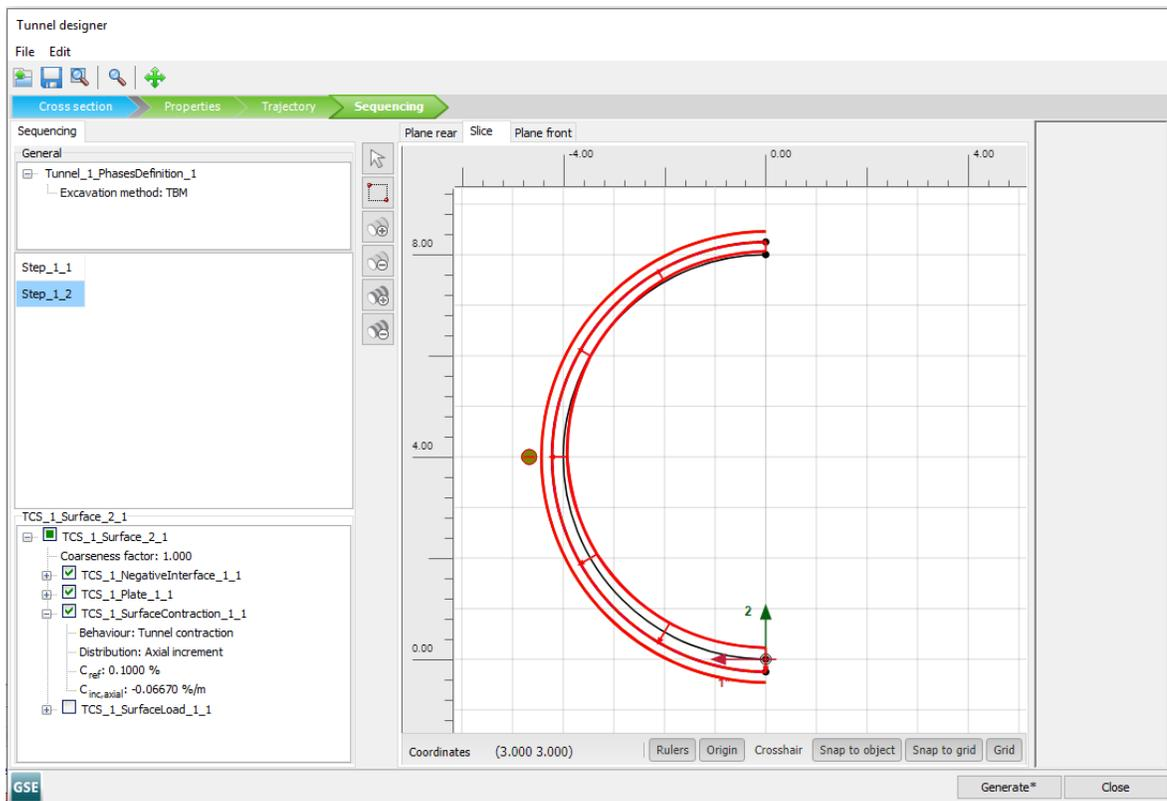

Figure 70: Slice tabsheet in the **Tunnel designer** for Step_1_2
- Go to the **Slice** tab, select the outer surface and set $C_{ref} = 0.1\%$, see Figure 70 (on page 96).